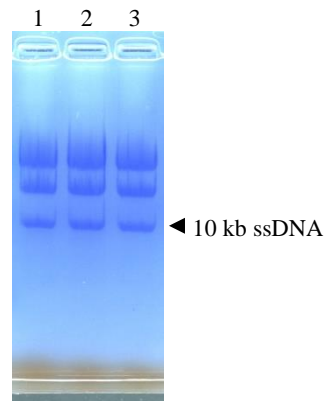

Figure 4. Preparative agarose gel electrophoresis.
8. Monitor the ssDNA blue bands moving in the gel during electrophoresis. Stop the electrophoresis after the bands are sufficiently resolved (Figure 4). ^{*9, *10, *11}